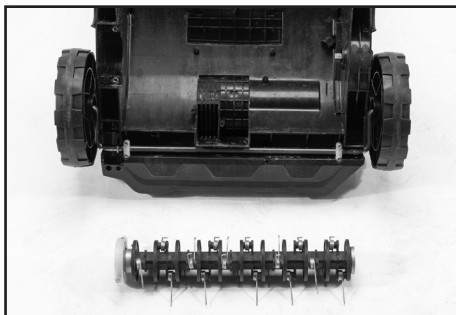

FIG.24
8.6 INSERTING THE AERATOR/ SCARIFIER CARTRIDGES (97921/98931) – FIGS.24 – 27